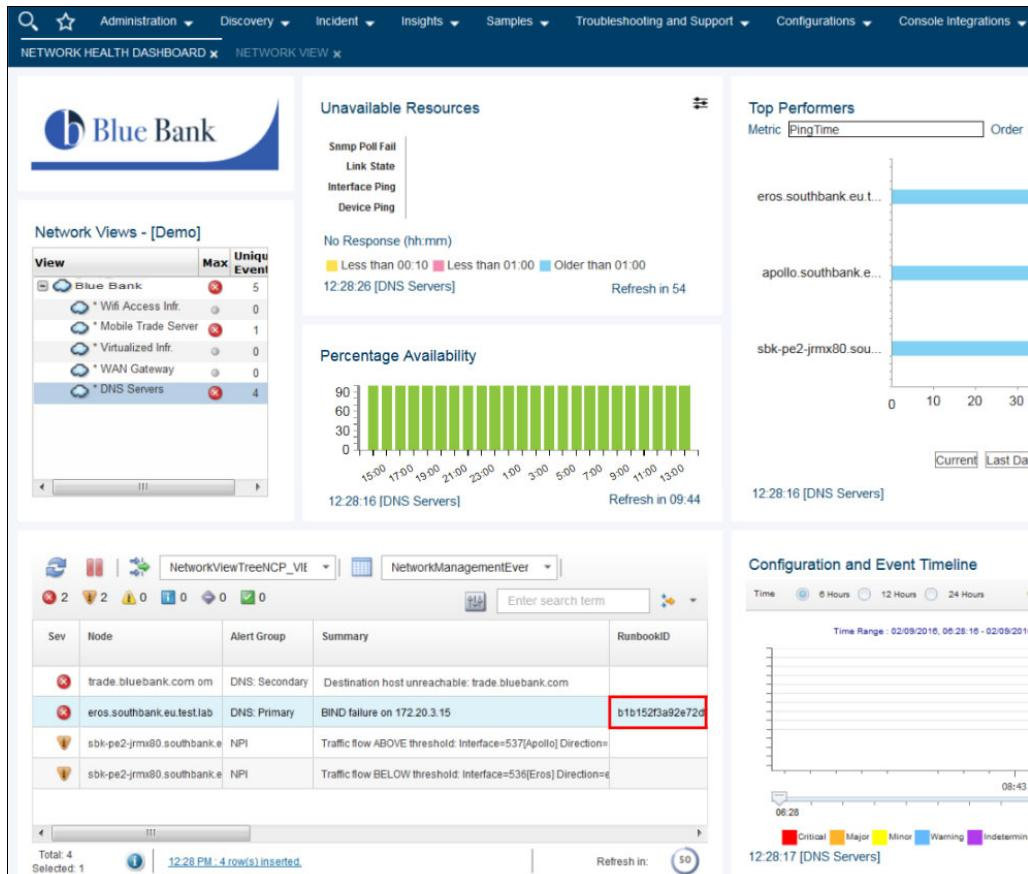

Figure 2-21 Network Health Dashboard Events list show Runbook IDs that are associated with events
5. A Runbook ID that is associated with the DNS Service is shown automatically by the alert viewer, as shown in Figure 2-21. Annette concludes that the issue is DNS-related based on confirmation that there are no issues with Wifi Access infrastructure, Virtualized infrastructure Utilization, WAN Gateway, and Service Availability, coupled with Netcool Operations Insight having identified a BIND (DNS) Failure in Step 3.